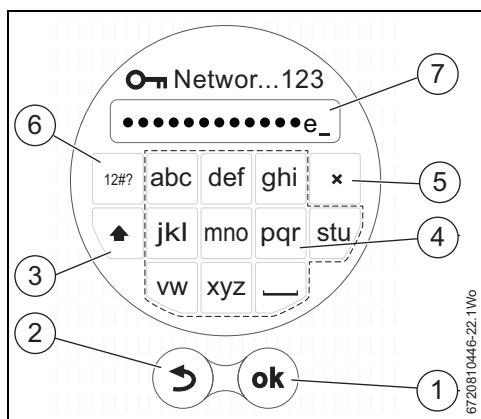

Fig. 10 Input Wi-Fi network password
- ▶ Input the Wi-Fi network password (→ fig. 10).